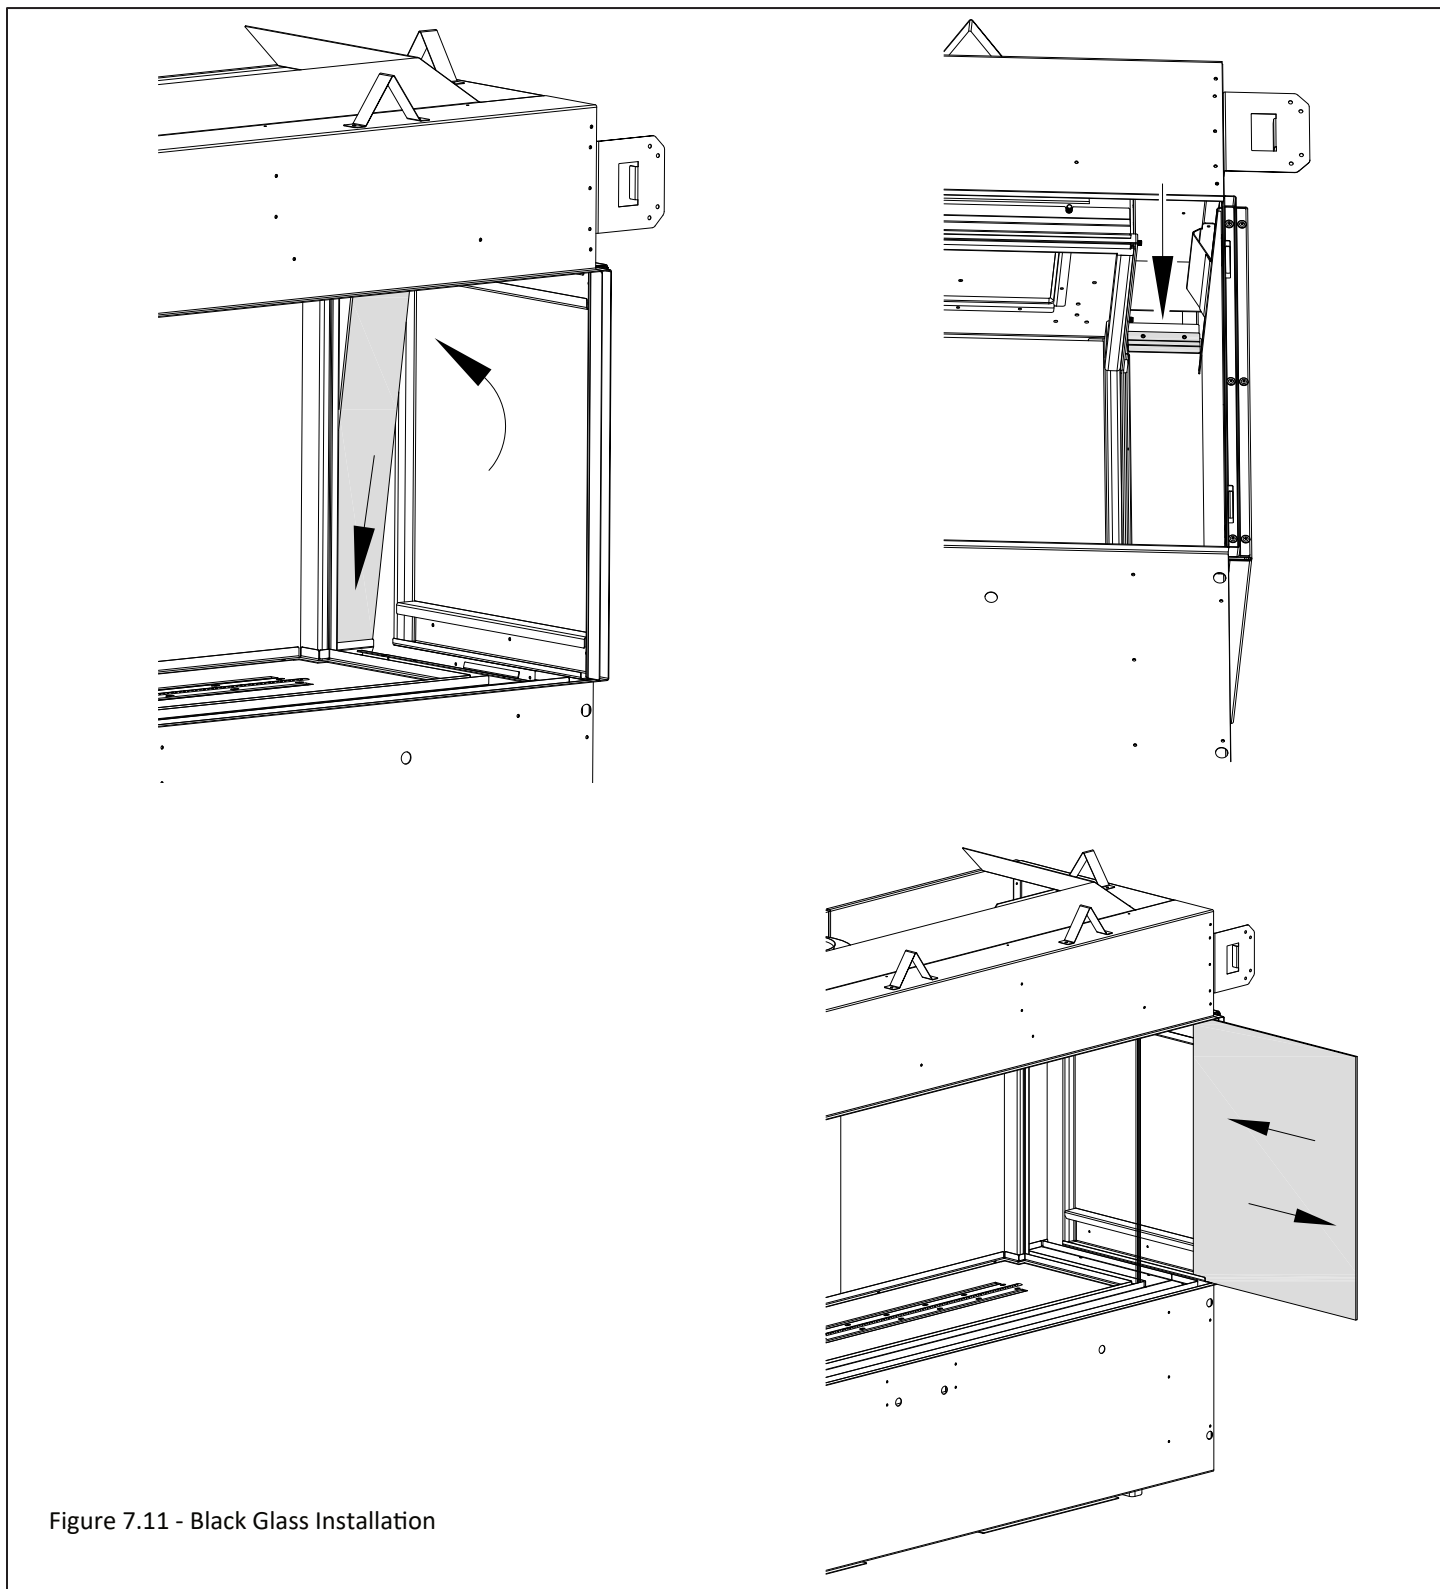

Figure 7.11 - Black Glass Installation
3. Install the (2) rear exterior perimeter black glass panels by tilting them sideways until you get them to the back of the fireplace. Place the bottom edge of the glass down into the preinstalled bottom perimeter panel clip and tilt into place. Use the supplied perimeter panel clip and secure on the top of the glass with (2) sheet metal screws. See Figure 7.11.
4. Install the side black glass panels by sliding them into position as shown in Figure 7.11.